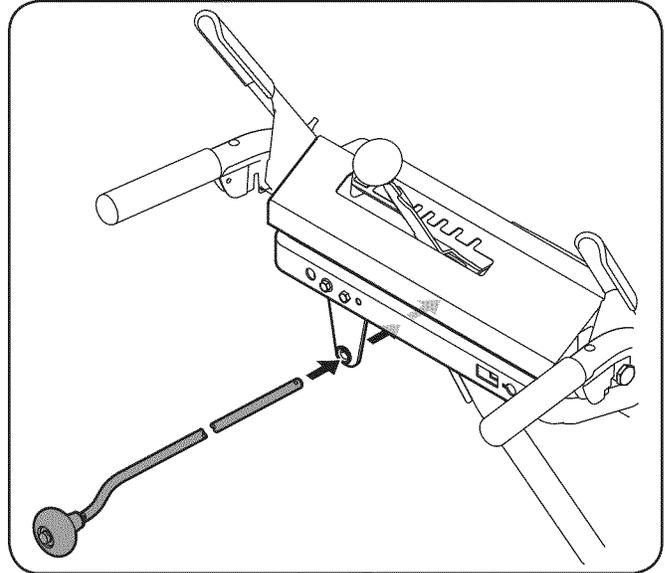

Figure 3-15
- Insert the chute directional control rod into the support bracket on the rear of the dash panel. See Fig. 3-15.